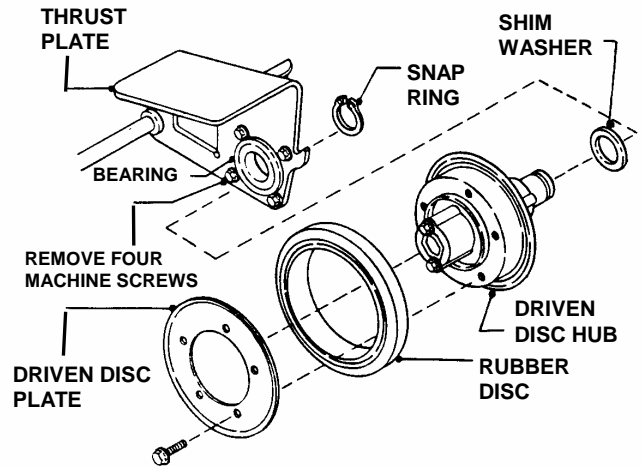

FIGURE 4.13
1. Remove snap ring. See Figure 4.13.